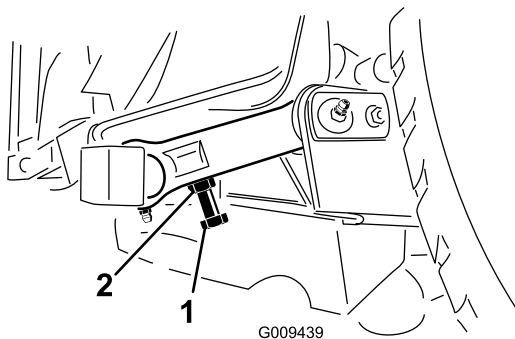

Figure 29
3. To adjust distance, locate adjuster bolt on rear pivot link of the cutting unit (Figure 29).